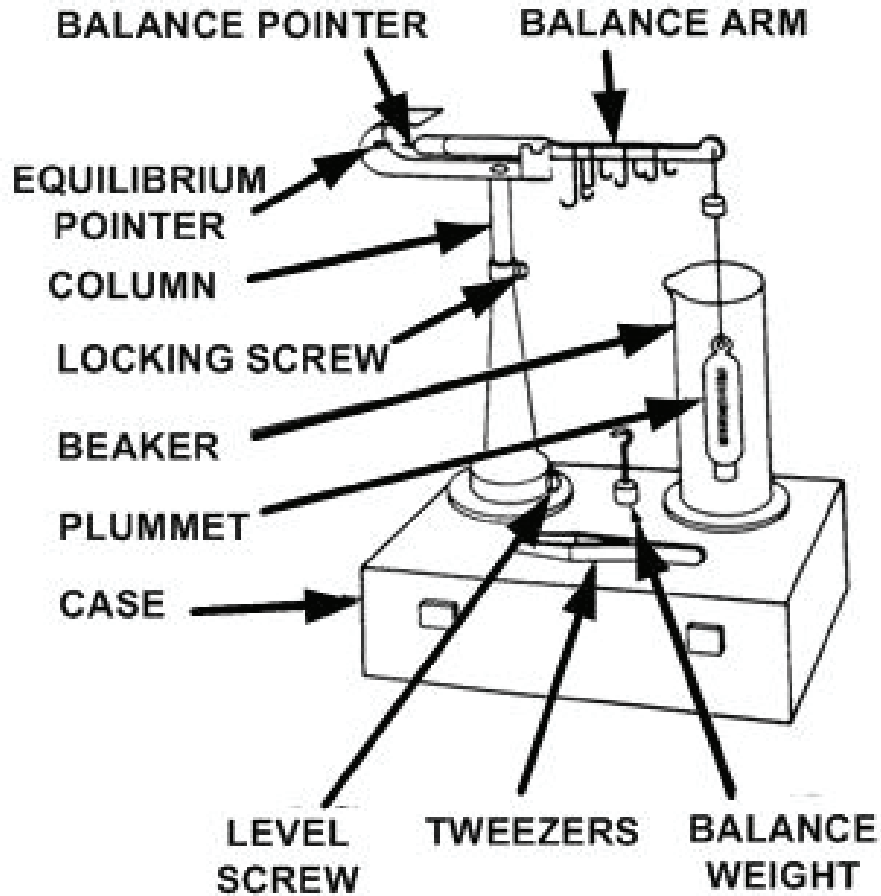

Figure 1. Specific gravity balance.
d. Place TI on a flat, level surface with balance arm (fig. 1) in place. If necessary, clean beaker and weights in console cleaner.
e. The adjustment screw in base should be oriented toward either front or rear of TI. Adjust column (fig. 1) to a convenient height.
- (1) Carefully place plummet (fig. 1) in center of left pan of balance.
- (2) Place weights totaling 15 g from weight set on opposite balance pan.
- (3) Add standard weights to appropriate pan to obtain a balance. After adding or subtracting values of standard weights used, if weight of plummet is not between 14.997 and 15.003 g, perform **b** (1) below.
- (4) Repeat technique of (1) through (3) above, substituting balance weight (fig. 1) for plummet. If weight of balance is not between 14.997 and 15.003 g, perform **b** (2) below.
- (1) Place balance weight (fig. 1) on hook at end of balance arm. If balance arm has an adjustable counterweight, adjust it until pointer is coincident with equilibrium pointer. If balance arm pointer not adjustable, adjust base leveling screw until pointers are coincident.
(2) Fill glass beaker (fig. 1) with distilled water and insert plummet (fig. 1) and thermometer.
The plummet must be suspended in the liquid being measured. This can be accomplished by adjusting height of column (fig. 1) and locking it in place with locking screw.